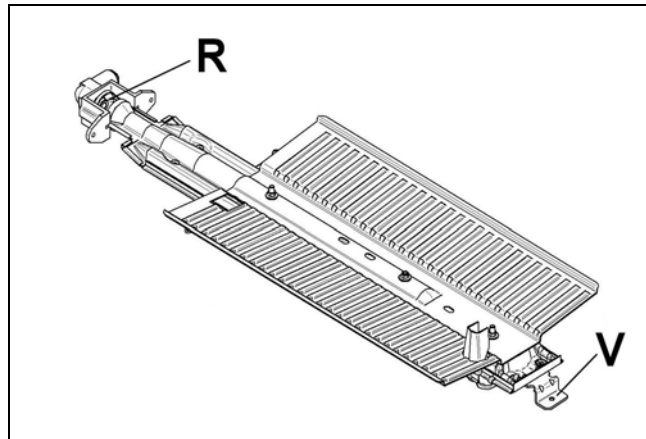

Fig. 11
- 3) Loosen and the screw V and pull out the burner from the support being careful not to damage the ignition plug and the thermocouple (Fig. 11)
- 4) Unscrew the nozzle R (Fig. 11) using a 7 mm. spanner and replace it with the nozzle for the new type of gas according to what is indicate in the table below